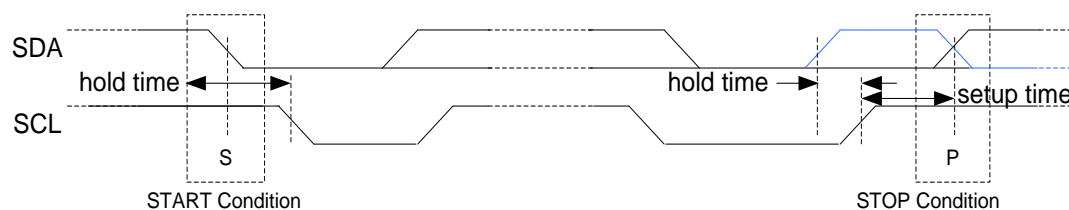

Figure 44. START and STOP (or repeated START, blue line) condition
An idle I²C bus state occurs when both SCL and SDA are not being driven by any master and are therefore in a logic HI state due to the pull up resistors. Every transaction begins with a START (S) signal and ends with a STOP (P) signal. A START condition is defined by a high to low transition on the SDA while SCL is high. A STOP condition is defined by a low to high transition on the SDA while SCL is high. START and STOP conditions are always generated by the master. This slave module also supports repeated START (Sr) condition which is same as START condition instead of STOP condition (the blue-color line shows repeated START in Figure 44).